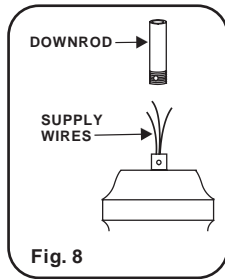

Fig. 8
Step 4. Carefully feed fan wires up through the downrod. (Fig. 8) Thread the rod into the coupling, next line up holes and replace lock pin and hitch pin. Tighten set screws.